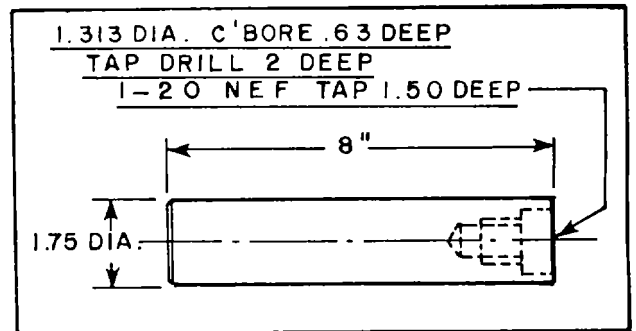

Fig. 20
1. Remove the capscrews from the front (Item 29) and rear (Item 45) caps. Remove the front (speedo) cap. Remove nut, speedo drive gear and spacer (Items 31, 32, and 33). Screw alignment tool (See Fig. 20 and 21) on to the end of the shaft. Place alignment studs (Fig. 28) in two holes of the rear cap (Item 45).
2. Insert the alignment tool (866 271) which is shown in the accompanying sketch, Fig. 20, through the bearing with the tapped end toward the center of the case (See Fig. 21).